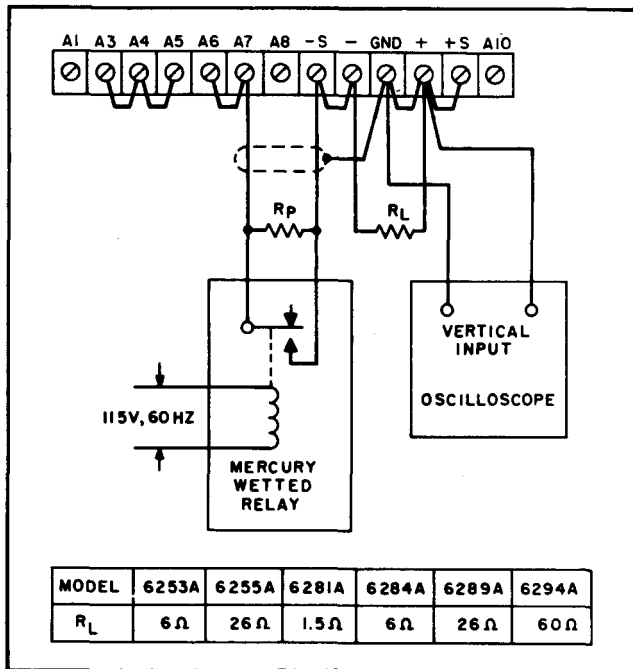

Figure 5-10. CV Programming Speed, Test Setup
5-32 Programming Speed. This measurement is made by monitoring the output voltage with an oscilloscope while rapidly changing the remote programming resistance. For up-programming, the remote resistance is varied from zero ohms to the value that will produce maximum output voltage; and for down-programming, the remote resistance is varied from the value that will produce maximum output voltage to zero ohms. To check the up-programming speed, make the connections indicated in Figure 5-10; for down-programming, simply remove R_L .
1. Restrap the rear barrier strip as indicated in Figure 5-10. Note that the jumper between +S and A10 is removed. This disconnects the output capacitor C to increase the programming speed. A minimum amount of output capacitance (C is permanently wired to the output and should not be removed, because the supply could oscillate under certain load conditions. The programming speed increases by a factor of from 10 to 100 when the output capacitor C is removed.
2. Connect the relay, oscilloscope, and programming resistor R_p as illustrated in Figure 5-10. Select the value of the programming resistor that